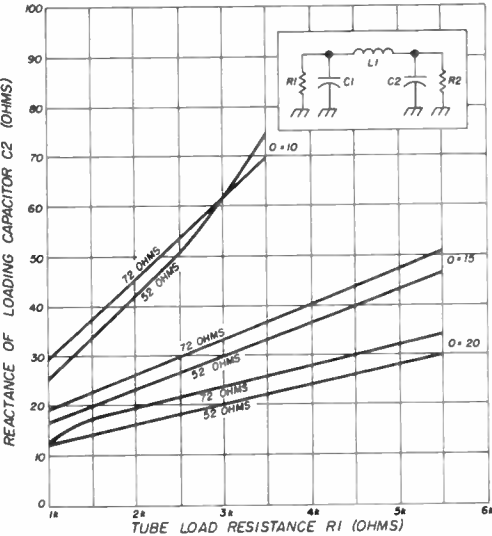

fig. 15. Reactance of the loading capacitor C2 as a function of tube load resistance for pi networks.
6. Find the reactance of the loading capacitor (C_2) from fig. 15. For the case of 3-400Zs operating with a load resistance of 1560 ohms and a Q of 15, the reactance of the loading capacitor is about 20 ohms.